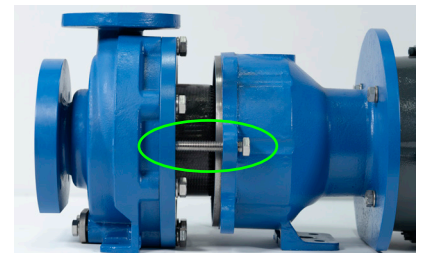

figure 6
- Carefully slide the wet end towards the motor adapter until it touches the jack screws. There will be some magnetic attraction. See figure 6.
- Bolt the wet end to the motor adapter by re-installing the (4) M14 hex head cap screws and torque evenly to 75 ft-lbs (102 N-m).